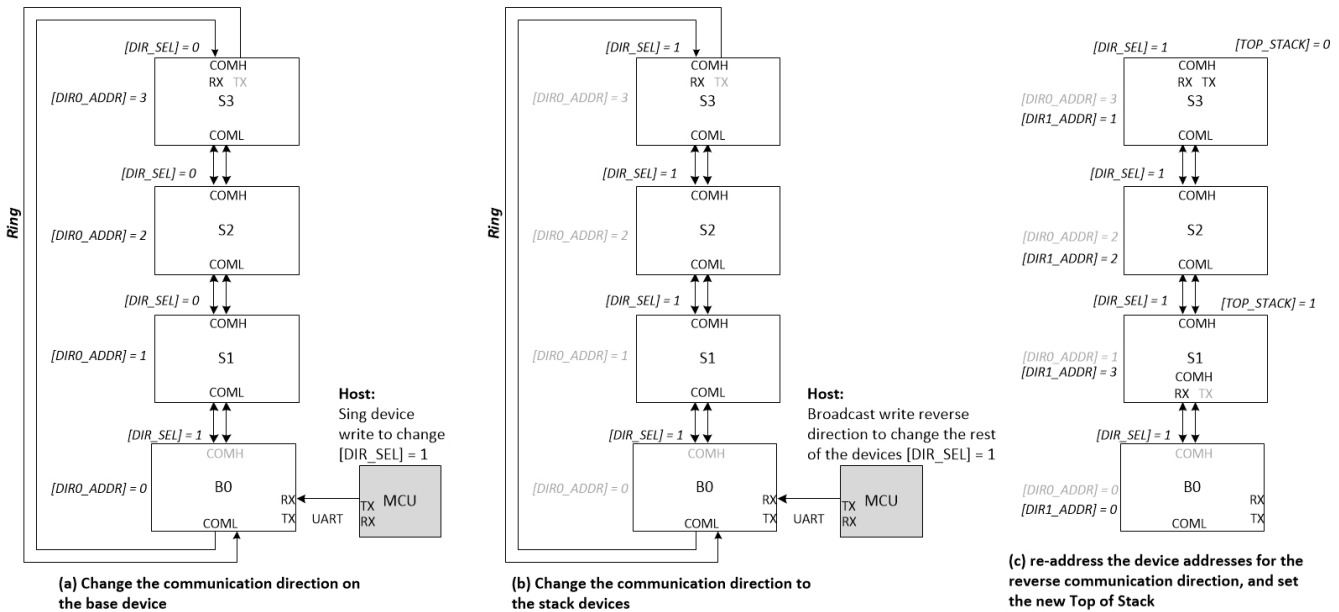

Figure 9-7. Example of Changing Communication Direction in Daisy Chain
- Host sends single device write to change the base device *[DIR_SEL] = 1* (see figure (a) in Figure 9-7)
- Host sends broadcast write reverse direction to change the rest of the devices' *[DIR_SEL] = 1* (see figure (b) in Figure 9-7)
- Host performs auto addressing procedure to set up device address in the *DIR1_ADDR* register (see figure (c) in Figure 9-7)
- Host sets up the new *Top of Stack* device (see figure (c) in Figure 9-7)